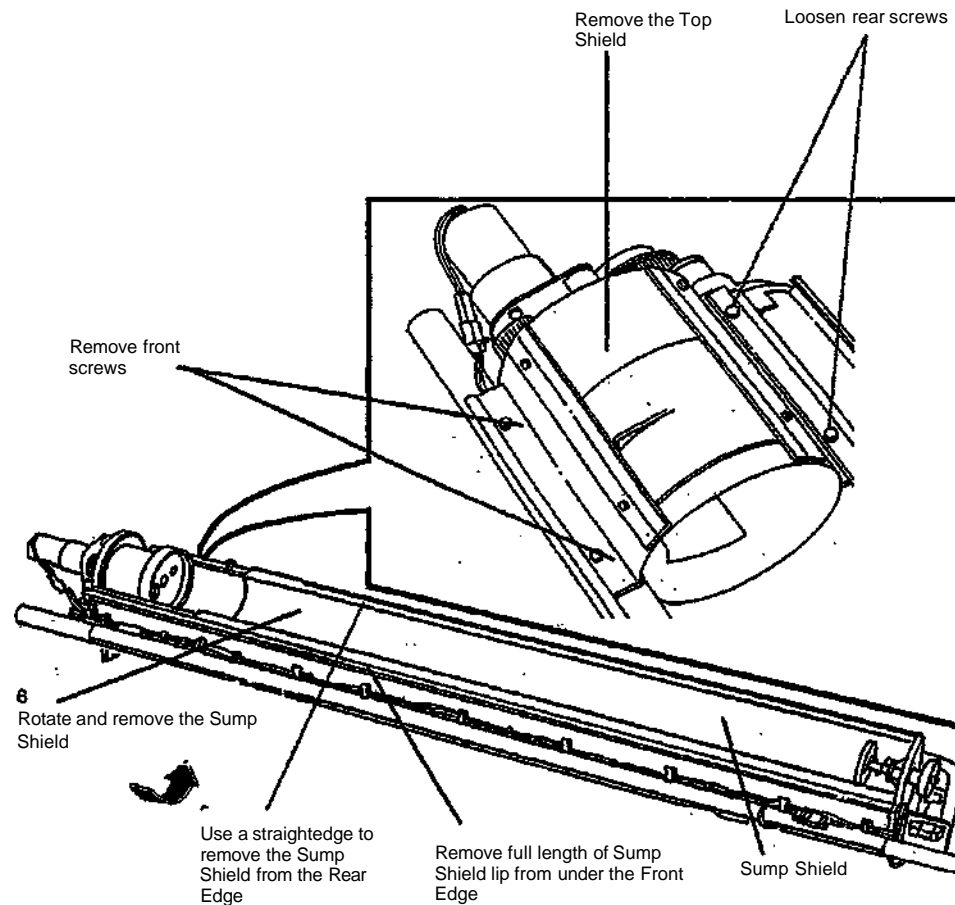

Figure 9. Removing the Sump Shield
15. (Figure 9): Remove the Sump Shield.